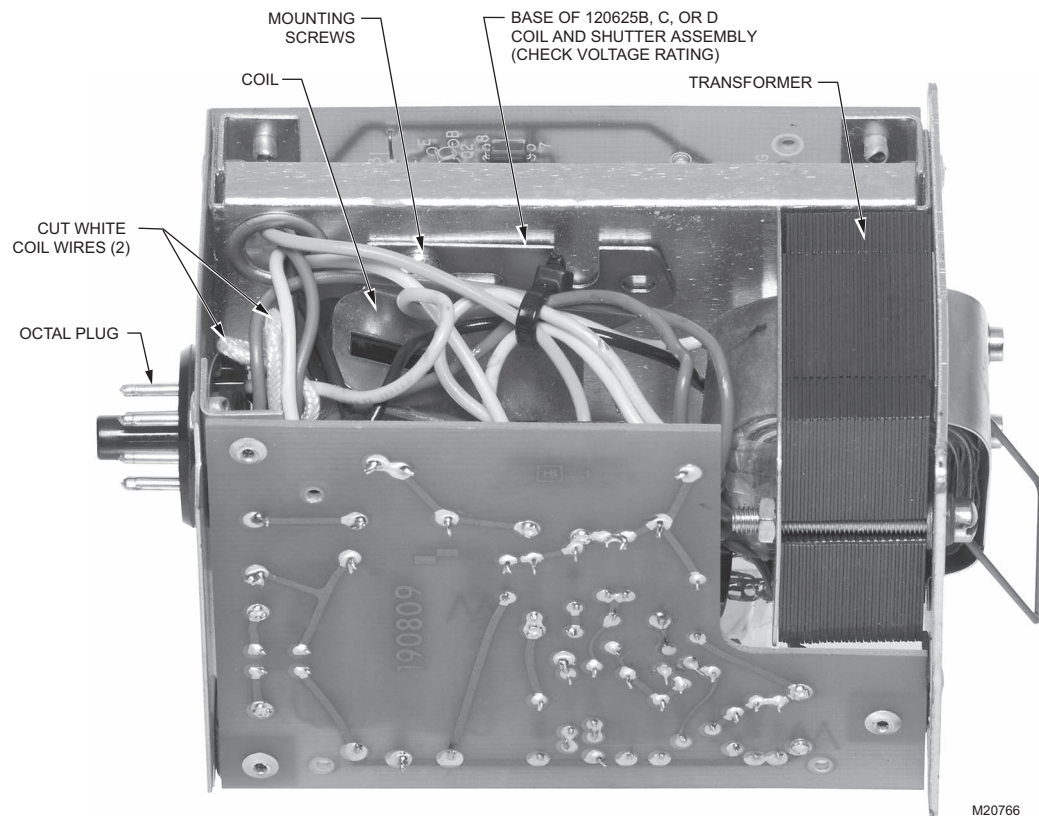

Fig. 21. Replacing the coil and shutter assembly.
6. Gently push the alignment guide away from the tube (just enough to free the tip of the sensing tube) and swing the tube out from the chassis as far as it will go (Fig. 21).